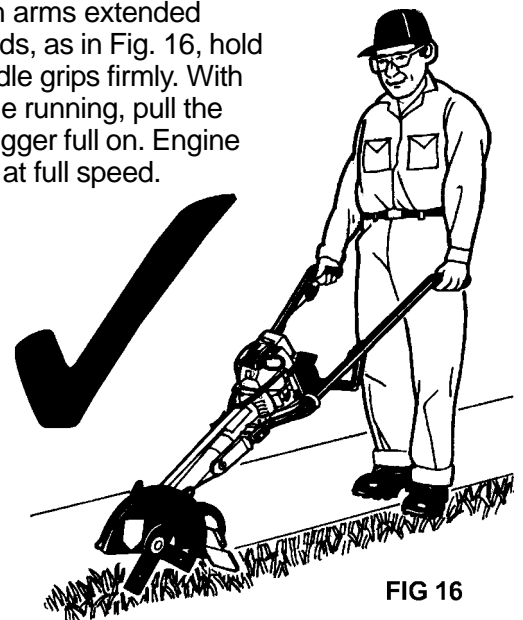

FIG 16
- With both arms extended downwards, as in Fig. 16, hold both handle grips firmly. With the engine running, pull the throttle trigger full on. Engine must run at full speed.
6. Do not lift handles by excessive bending of elbows (Fig. 18). Always keep arms straight as shown in Fig. 16.